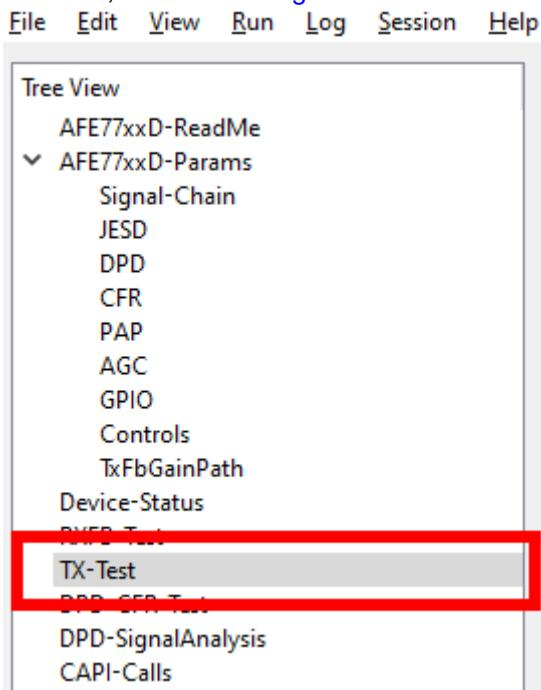

Figure 3-18. Switching to TX-Test Tab in Latte
11. Click on “TX-Test” under the tree view, as shown in Figure 3-18.